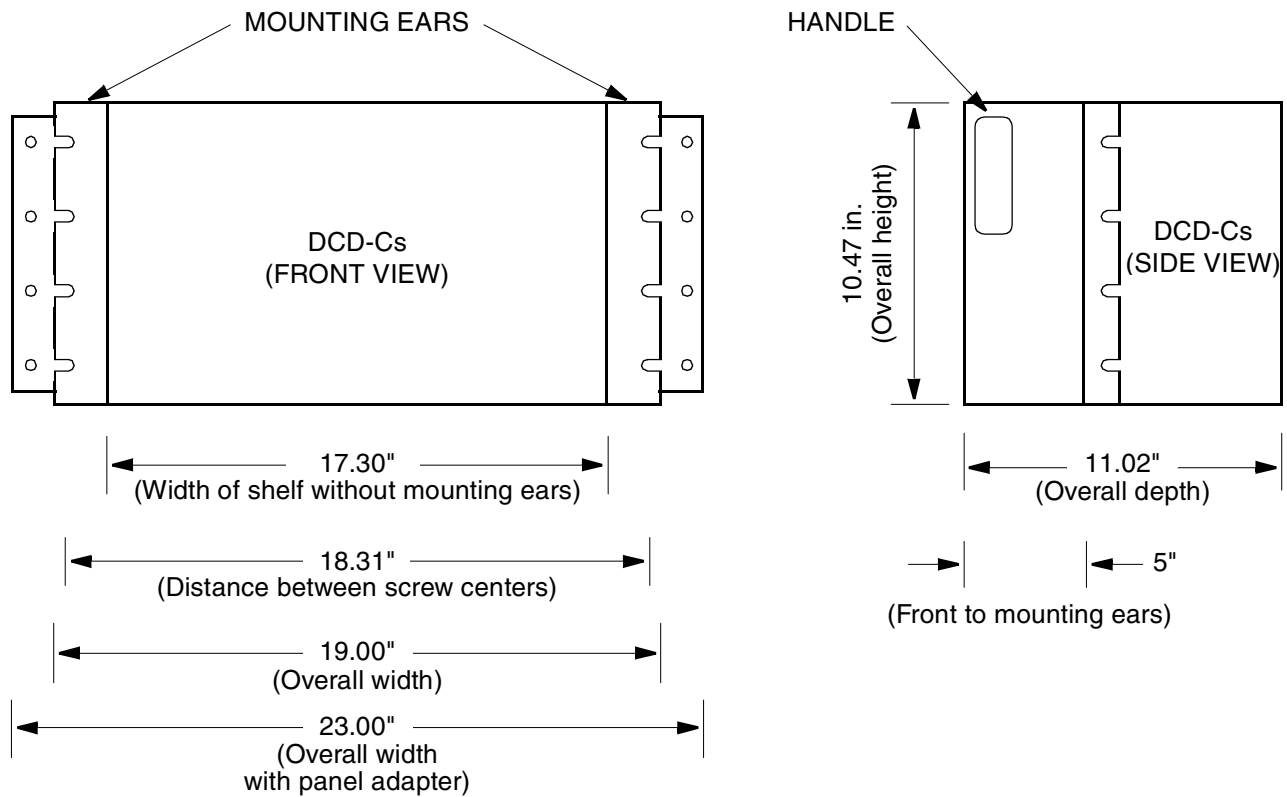

Figure 4. DCD-Cs Dimensions
• Figure 4 was changed to add mounting ears for a 23-inch rack.
1. Refer to Figure 4 and attach the mounting ears in the correct position as required. Use the 8 machine screws in the Hardware Kit.